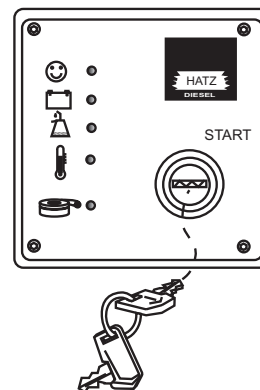

Figure 39. Engine Status/Ignition Console
5. Insert ignition key into ignition switch (Figure 39) and turn key clockwise to the **START** position. Once engine starts, release key.